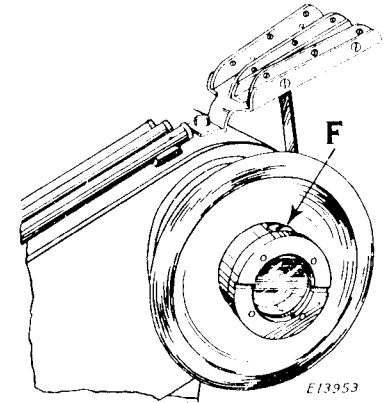

Fig. 4.
2. Turn the balance wheel to bring the screw plug (F, Fig. 4) to the top, remove this plug and fill the reservoir practically